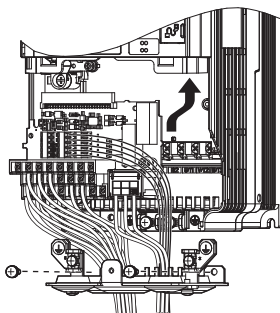

Figure 7.46 Drive Replacement: Installing the Terminal Board
1. Once the main circuit has been wired, connect the terminal block to the drive as shown in Figure 7.46. Use the installation screw to fasten the terminal block into place.